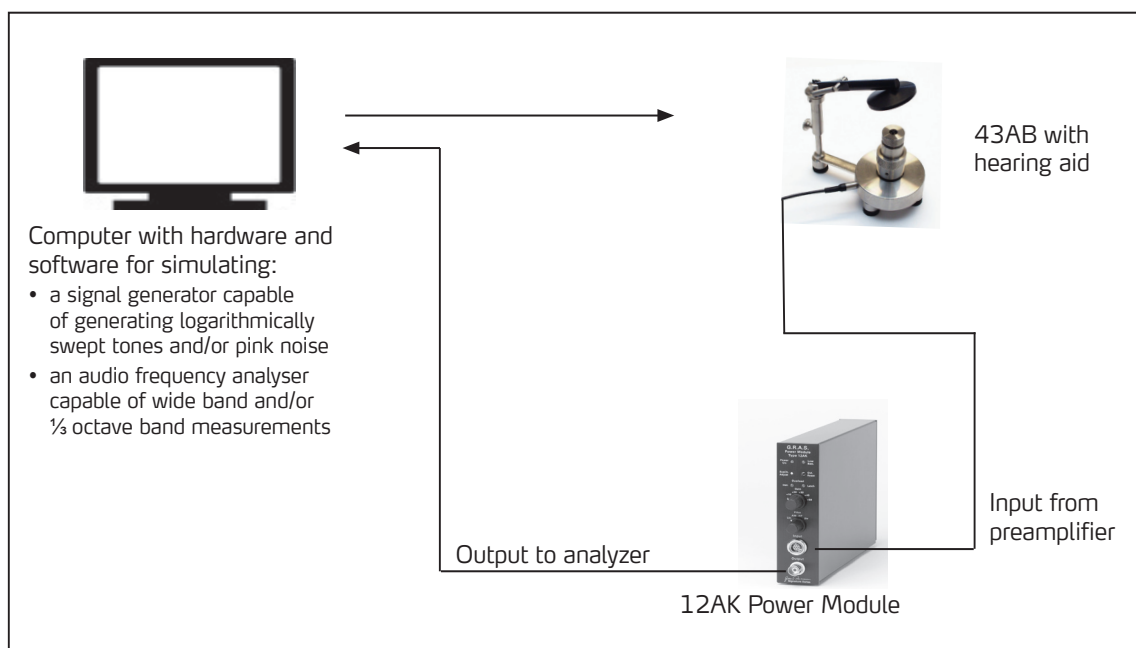

Fig. 2. Block diagram of a complete set-up for making tests
Items 3 and 4 could be combined in the same unit, e.g. a computer fitted with suitable hardware and software for A/D and D/A conversions in order to simulate both a signal generator and an analyser. Fig. 2 shows a block diagram of a possible set-up for making tests.
- 1) Setting up the test jig, e.g. as shown in Fig. 2.